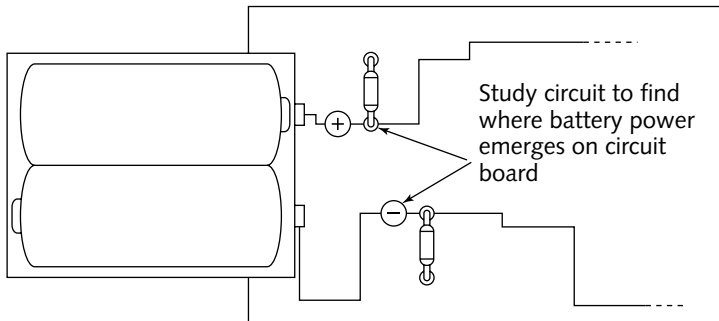

FIGURE 10-14: Extension wires will be soldered to components (or printed circuit traces) connected directly to the batteries (power supply).
- b.** If the built-in does not have wires but instead connects directly to your circuit board, you'll need to solder two new wires to circuit points—one to the positive side and one to the negative side—of the existing battery compartment circuit traces (see Figure 10-14).